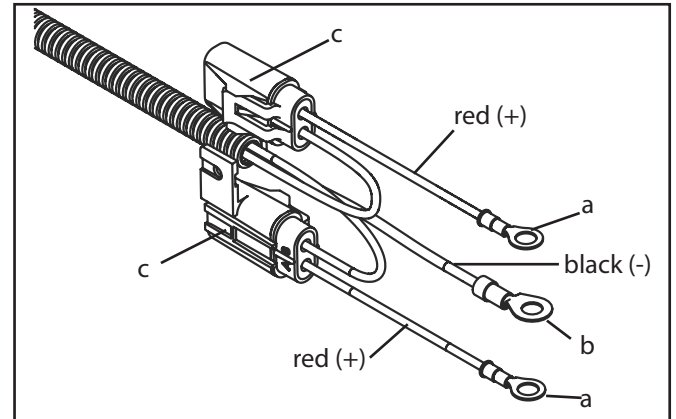

Figure 4: Input power harness
2. **IMPORTANT:** Make sure the 15 and 10 amp fuses on the power harness are in place before operating. The fuses are located inside the Metripack fuse covers (c) (Figure 4). (NOTE: The 10 amp fuse is in the feed for the boom section valves, and the 15 amp fuse is for the foam marker.)